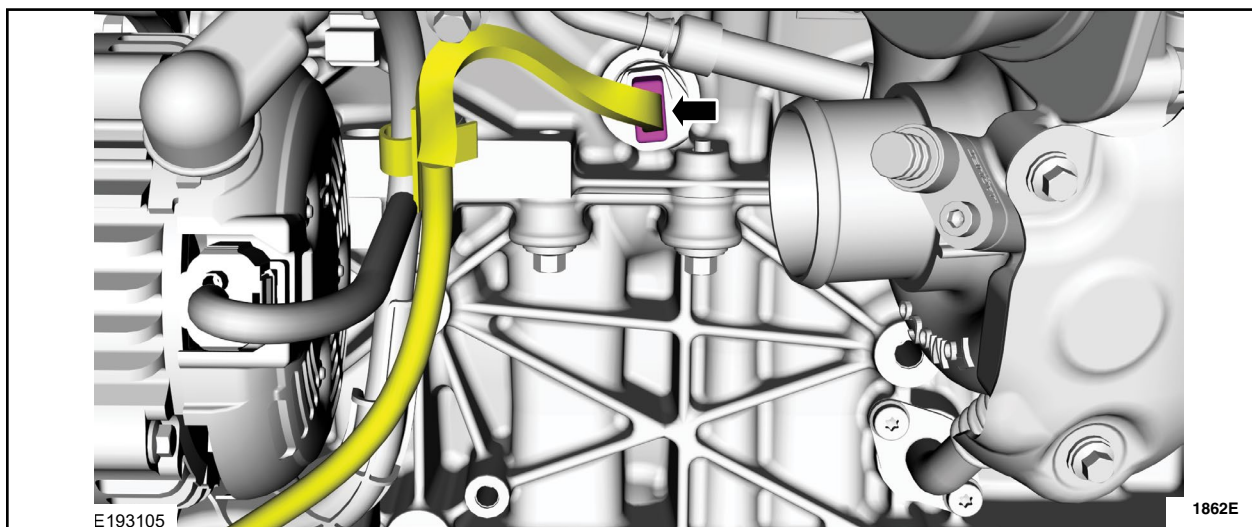

FIGURE 2
4. Disconnect the block heater electrical connector. See Figure 2.
9. Connect the *new* wire assembly to the block heater element. See Figure 2.